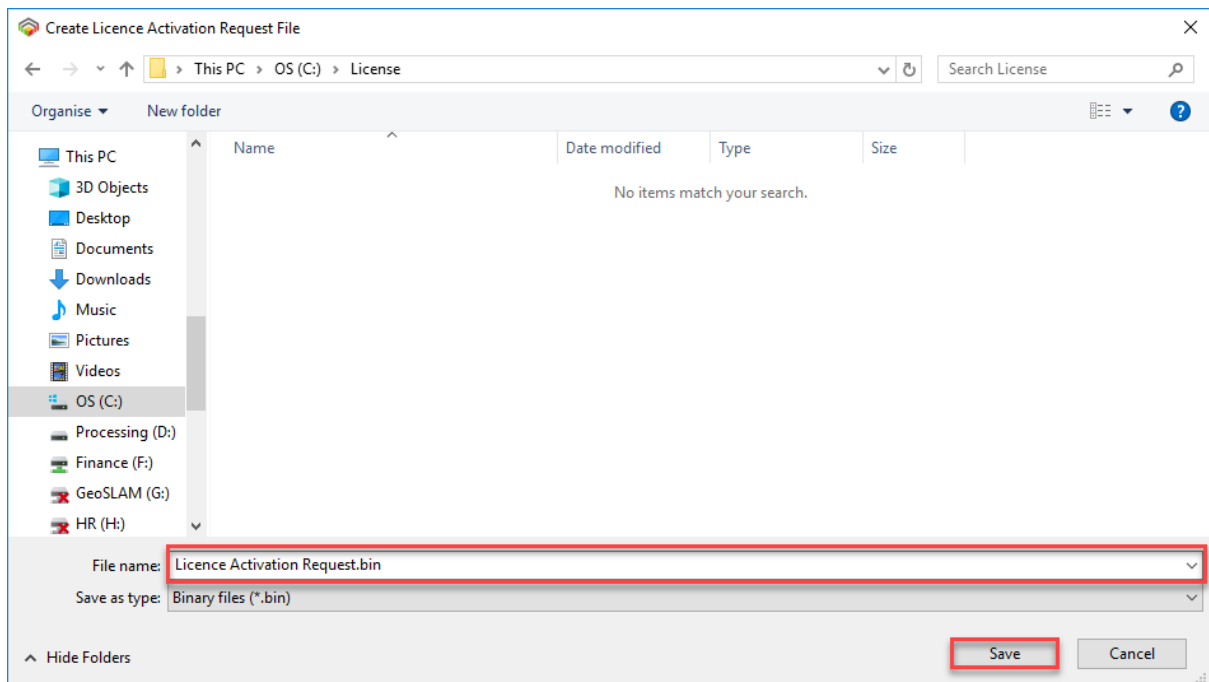

Figure 5 - Creating a Licence Activation Request.bin file.
4. *Select* -> **Create File**, to create the *Capability Request* file. This will open the Create License Activation Request File dialog (Figure 5).